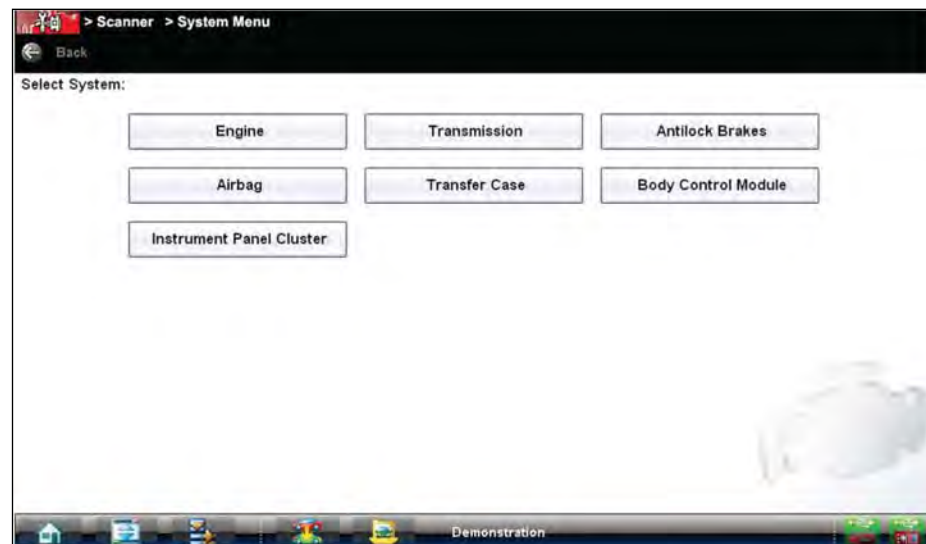

Figure 4-16 Systems menu
1. After the vehicle has been identified, a list of available systems for testing displays (Figure 4-16). Select a system to continue.